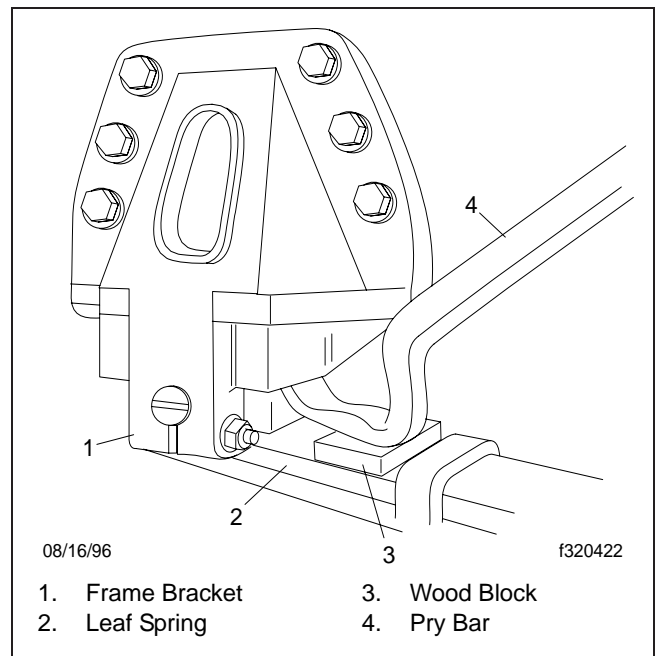

Fig. 12, Hendrickson RTE Series Frame Bracket Inspection
6. Place a block of wood on the leaf spring. See **Fig. 12**. Place a pry bar on the block of wood and insert the end of the pry bar under the frame hangar. Attempt to lift the frame hangar, as shown in **Fig. 12**. Also, with an empty chassis and the brakes applied, attempt to rock the chassis back and forth while observing the spring eye. In either case, if 1/8 inch or more of movement is observed, the bushing and pin should be replaced. This also could indicate that a broken spring eye and spring are connected to the spring hangar through the wrapper eye of the second leaf. In this case, the main leaf or the complete spring should be replaced immediately.